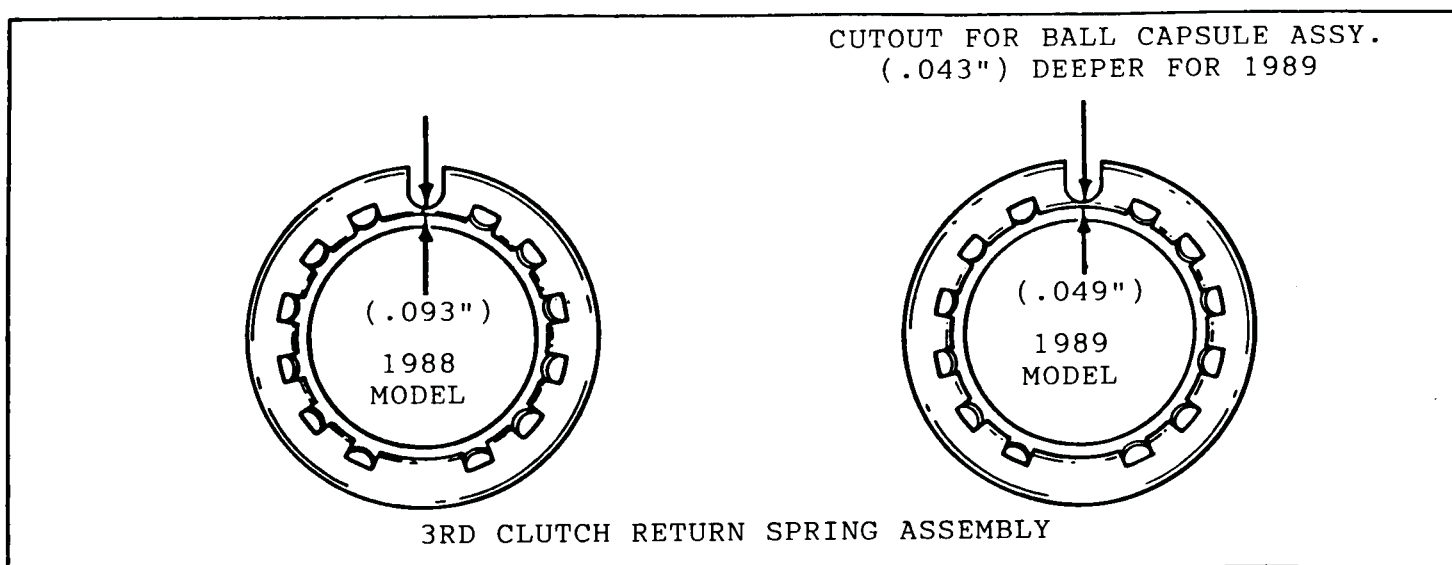

Figure 87
- (6) 3rd Clutch Return Spring Assembly - The cutout in the retainer is .045" deeper to accomodate the relocated ball capsule in the new (Smaller Diameter) 3rd clutch piston and seal Assy. (See Figure 87).